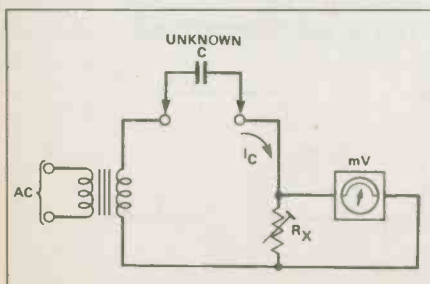

Fig. 1 A simple method of measuring capacitance.
*Fig. 1 Metal tracks laid out on a ULA, as seen on a VDU during design. The filled-in white area are metal tracks, the thin white lines outline transistors and diffused cross-unders, while the faint grey lines mark allowed track placements.*
The shape and location of the holes in the oxide layer are ultimately determined by a pattern held in a computer. This pattern is converted into a 400 X full size master print which is photographically reduced in two or three stages onto a chrome-coated glass plate, the 'mask'. Several hundred patterns are repeated across the mask in a precise regular array, so one wafer will yield several hundred chips (see Fig. 1).
The next level down in terms of cost/time is the gate array, or uncommitted logic array (ULA), to which the bulk of this article is devoted. In the ULA the devices and some inbuilt interconnection are ready-fabricated. The devices are laid out in a regular array with channels between groups of devices for interconnection routing (Fig. 1). The designer's job is to complete the interconnection by specifying a metallisation mask layout.
A suitable arrangement is shown in outline form in Fig. 1. The only specific requirement is that  $R_x$  must be very small in value in comparison with the impedance of the capacitor under test.